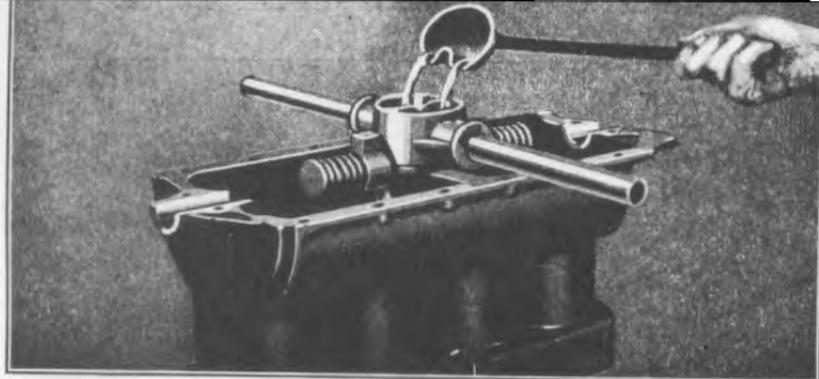

Fig. 150
- 230 While heating the babbitt, the ladle used in pouring should be kept in the pot in order that it will be approximately the same temperature as the metal. When ready to pour, either two ladles or a two lip ladle should be filled with babbitt, pushing the scum on the babbitt back so that only clean metal is used for the bearings. The bearings should be poured rapidly from both sides at the same instant (See Fig. 150). Sufficient babbitt to more than form the bearings should be poured. As the babbitt sets quickly the bar may be removed immediately after the bearings have been poured.